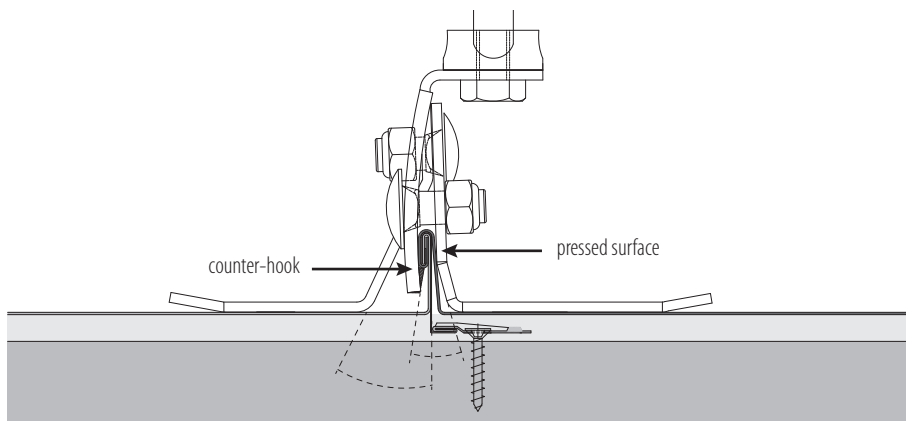

Fig. 1: Patented clamp, for anchor devices
- **IMPORTANT:** Put the clamps in with the counter-clamps on the standing seam side (Fig.1).